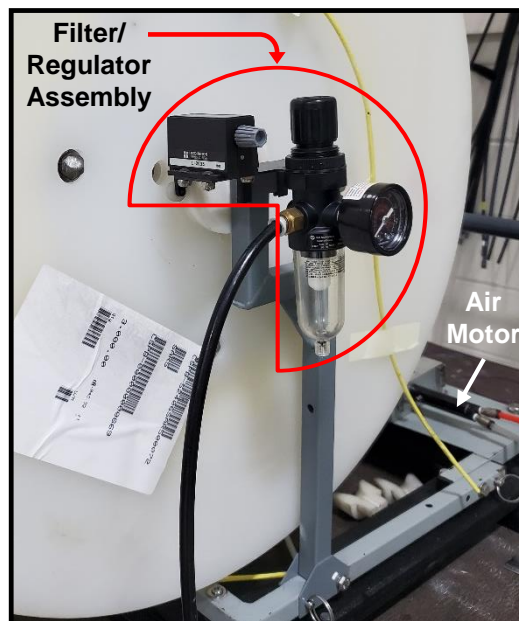

Figure 12
8.2 Mount Filter/Regulator Assembly on fiber reel support leg. Locate Assembly on same side of Payoff Stand as Blowing Head Air Motor. See Fig. 12.
9.3 Position the fiber bundle reel so the Fiber Bundle pays off from bottom of reel towards the motor. Carefully lift the reel and guide the Steel Shaft ends into Payoff Stand support arms. Ensure Payoff Counter actuating arm on the Filter/Regulator Assembly rides on the back side (adjacent to) the Payoff Cam surface. **See Fig. 12**